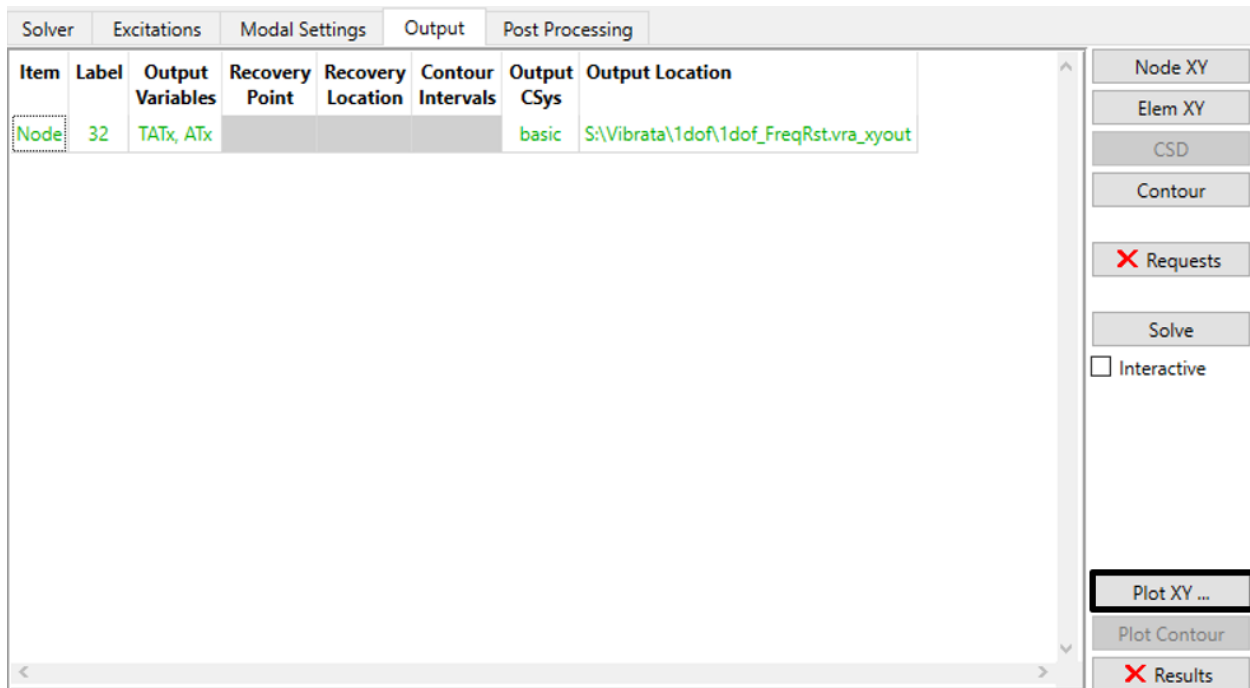

Figure 4-16. Results are available for requests in green text. Display them.
b. The text of the request turns green when the solver has finished and its results are available (Figure 4-16). Plot the results by clicking the **Plot XY...** button.